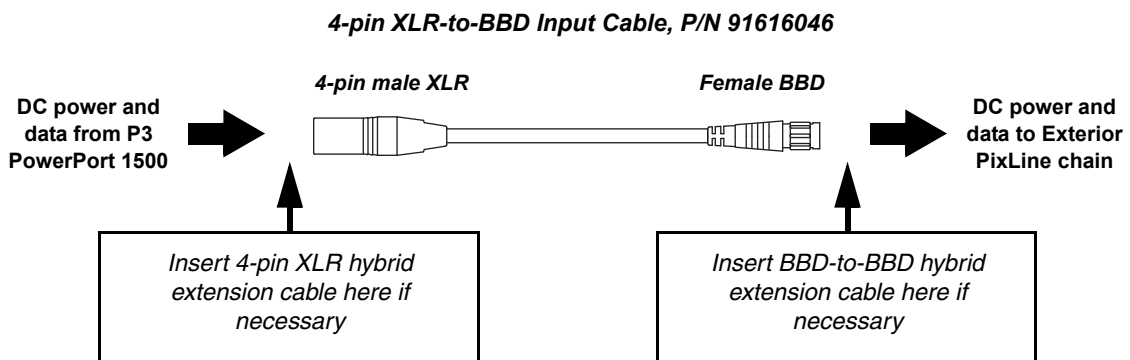

Figure 6: Power and P3 video data input
5. Connect each chain of Exterior PixLine fixtures to one of the four 4-pin female XLR hybrid (48 VDC power + P3 data) outputs on a P3 PowerPort 1500 using a Martin® hybrid 4-pin male XLR to BBD adapter cable, P/N 91616046 (see Figure 6). Alternatively, connect each chain of Exterior PixLine fixtures to one of the 4 outputs on a P3 PowerPort 1000 IP.